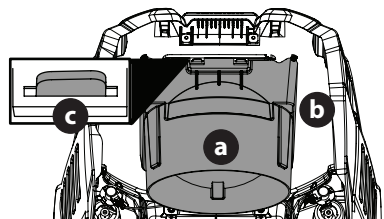

Fig. 10
1. Insert the rear tabs (c) (Fig. 10).